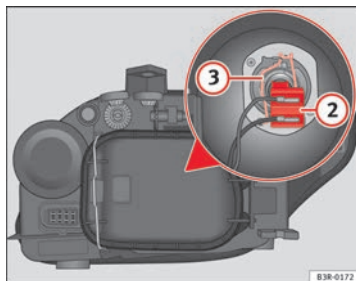

Fig. 197 Dipped beam headlights
- Pull the connector ⇒ Fig. 197 ② from the bulb.
- Unclip the retainer spring ⇒ Fig. 197 ③ pressing inwards to the right.